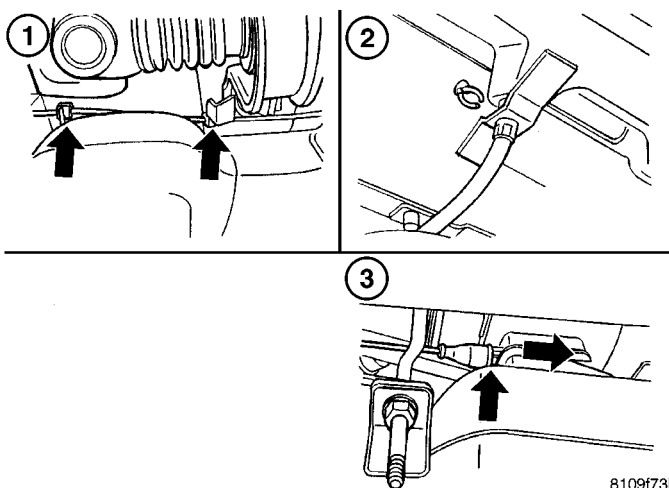

Fig. 30 REMOVING FRONT PARK BRAKE CABLE AT THE VEHICLE
(4) Unclip the guides at the frame cross members for the front cable at the vehicle (Fig. 30).
(5) Pull off the locking clips at the floor opening and pull the front brake cable down and out (Fig. 30).
(6) Press together the locking ring and pull out the front brake cable to the front (Fig. 30).
(7) Remove the front park brake cable at the vehicle using special tool 9289.